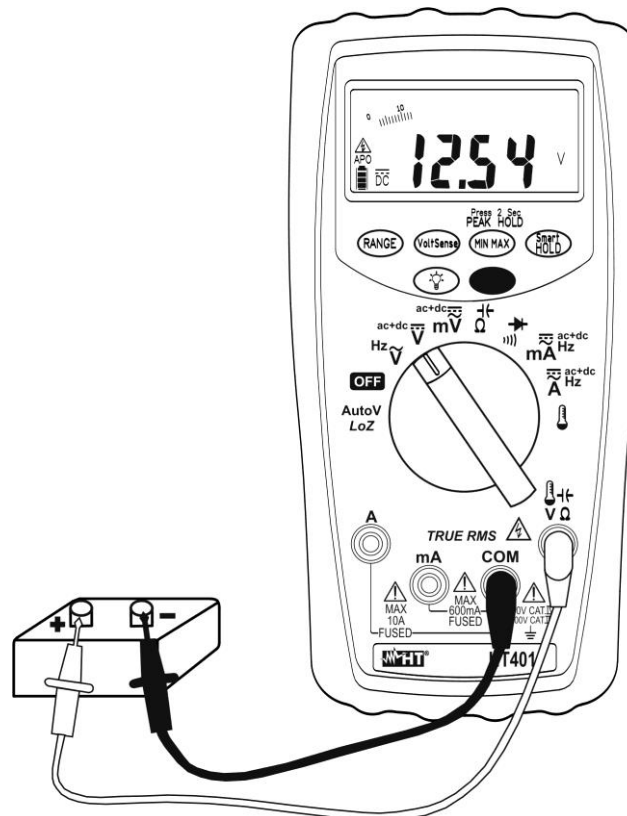

Fig. 2: DC voltage measurement
5. Position the red lead and the black lead respectively in the points with positive and negative potential of the circuit to be measured (see Fig. 2). The voltage value is shown on the display
7. When symbol "-" appears on the instrument's display, it means that voltage has the opposite direction with respect to the connection in Fig. 2